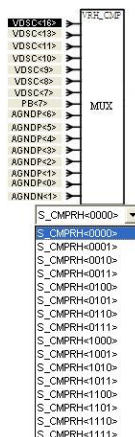

Figure 58
- (1) Click the specified network name with mouse left key, VRHCMP can select to that network
- (2) Click the specified network switch with mouse left key, VRHCMP can select to that network
- (3) Figure 58 will show up by clicking mouse left key, and then users can select the switch network